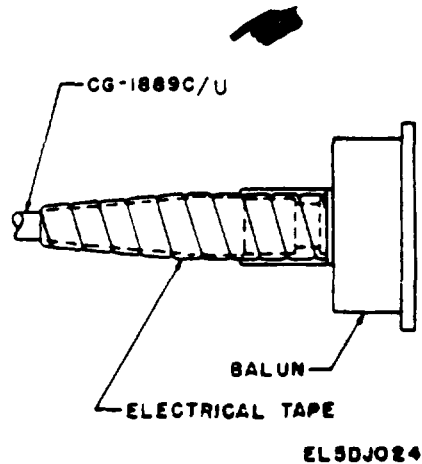

Figure 2-19. Weatherproofing mated connectors.
- (3) Tightly **wrap** several layers of tape with a 50 percent overlap over the built-up junction. Use a minimum of four layers. The completely taped covering should extend beyond the connector for a distance equal to 8 to 12 times the diameter of the cable and have a smooth and symmetrical contour (fig. 2-19).